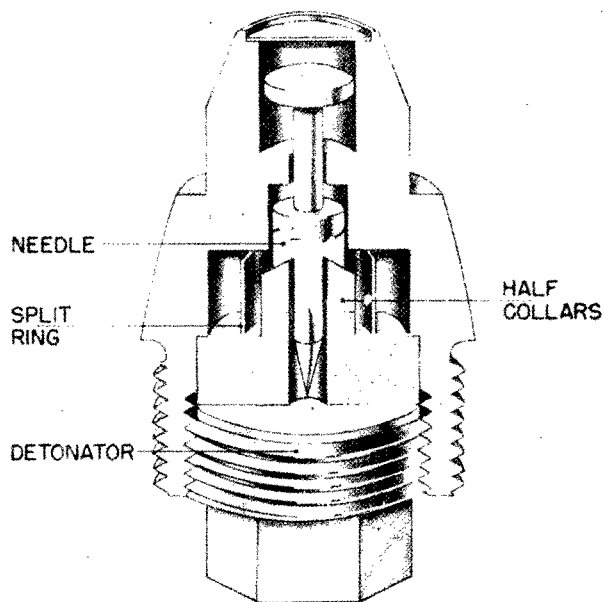

Figure 557—A. Z. 1551 and 1552
**EMPLOYMENT:** Nose fuzes used in German 15-mm ammunition. (See fig. 557.)